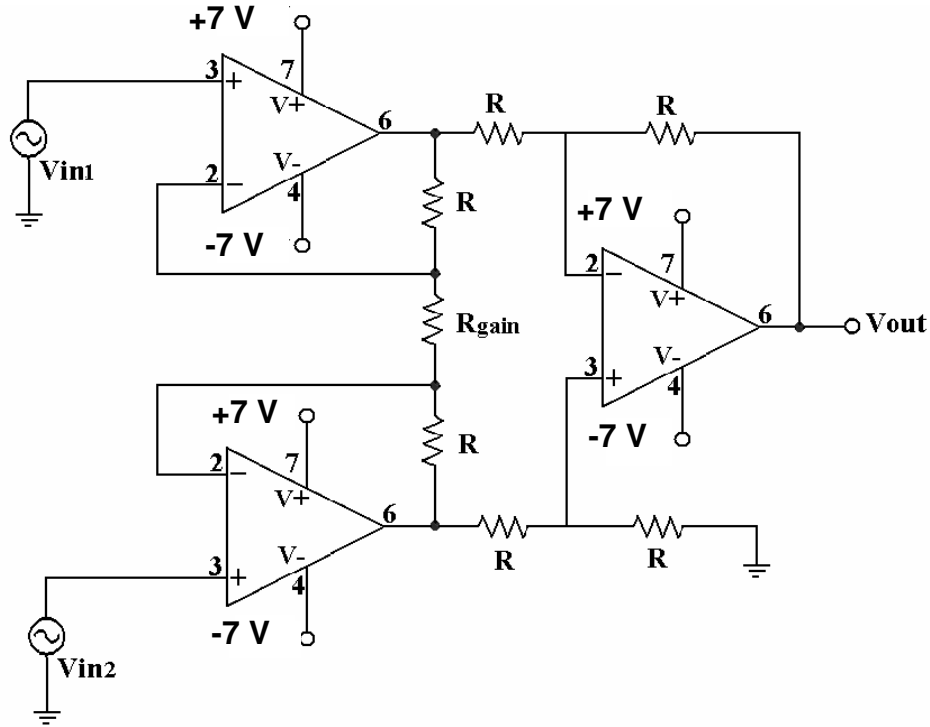

Fig. 3. Typical instrumentation amplifier circuit
Instrumentation amplifier: The instrumentation amplifier is a differential amplifier that has high input impedance and the capability of gain adjustment through the variation of a single resistor. A commonly used instrumentation amplifier is shown in Fig. 3.
6. For the instrumentation amplifier in Fig. 3 with power supplies $\pm 7V$, choose R to have $V_{out} = 2(V_{in2} - V_{in1})$ if $R_{gain} = 20K\Omega$.